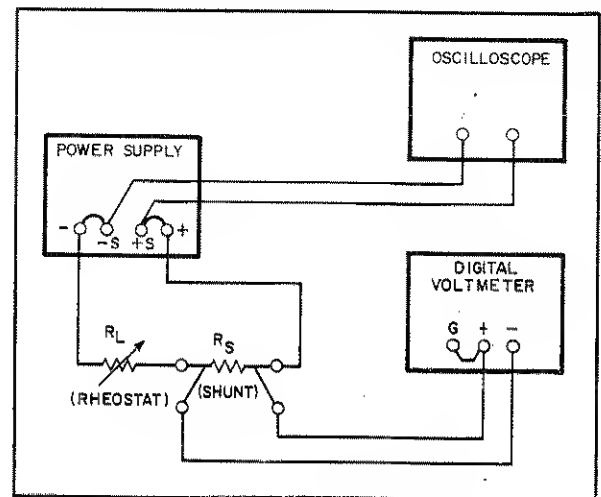

Figure 5-6. Current Limit Adjustment Setup
- Connect setup shown in Figure 5-6.